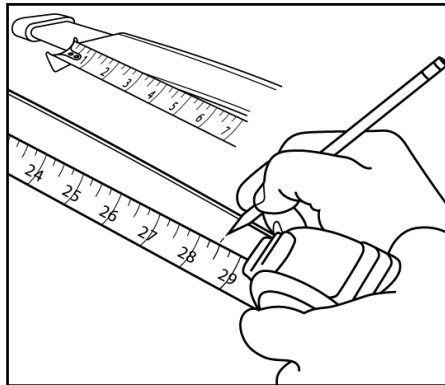

Fig.31
1. Take the Awnbrella arms down from the coach. On the top side of one Awnbrella arm (side without adjustment knobs), wipe rubbing alcohol to remove any grease or oils from handling on the center of the arm where the Velcro patch will be installed. Measure 28-1/2" from either end of the channel and mark with a pencil (**Fig.31**). This is where to install a black patch of Velcro.